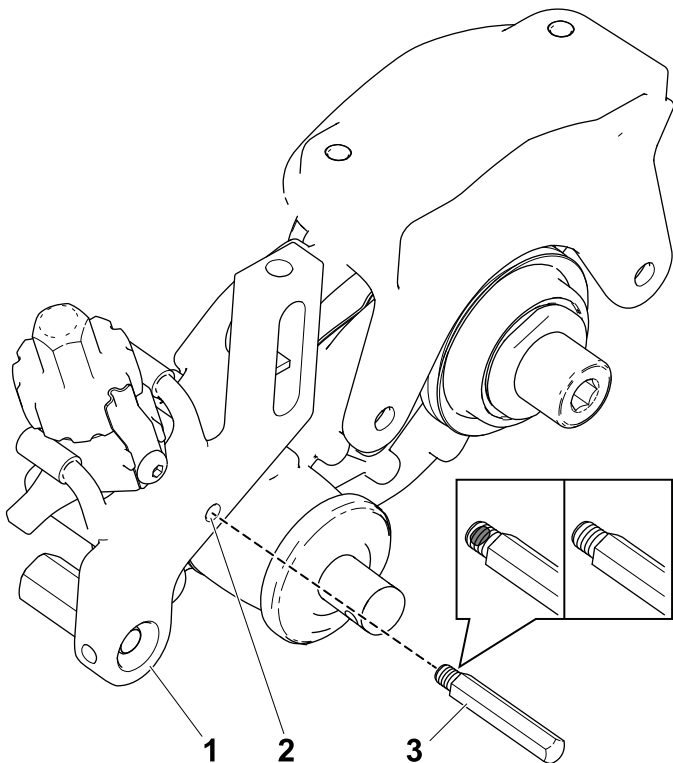

Figure 20
2. Secure the groomer pin to the height-of-cut arm (Figure 20).